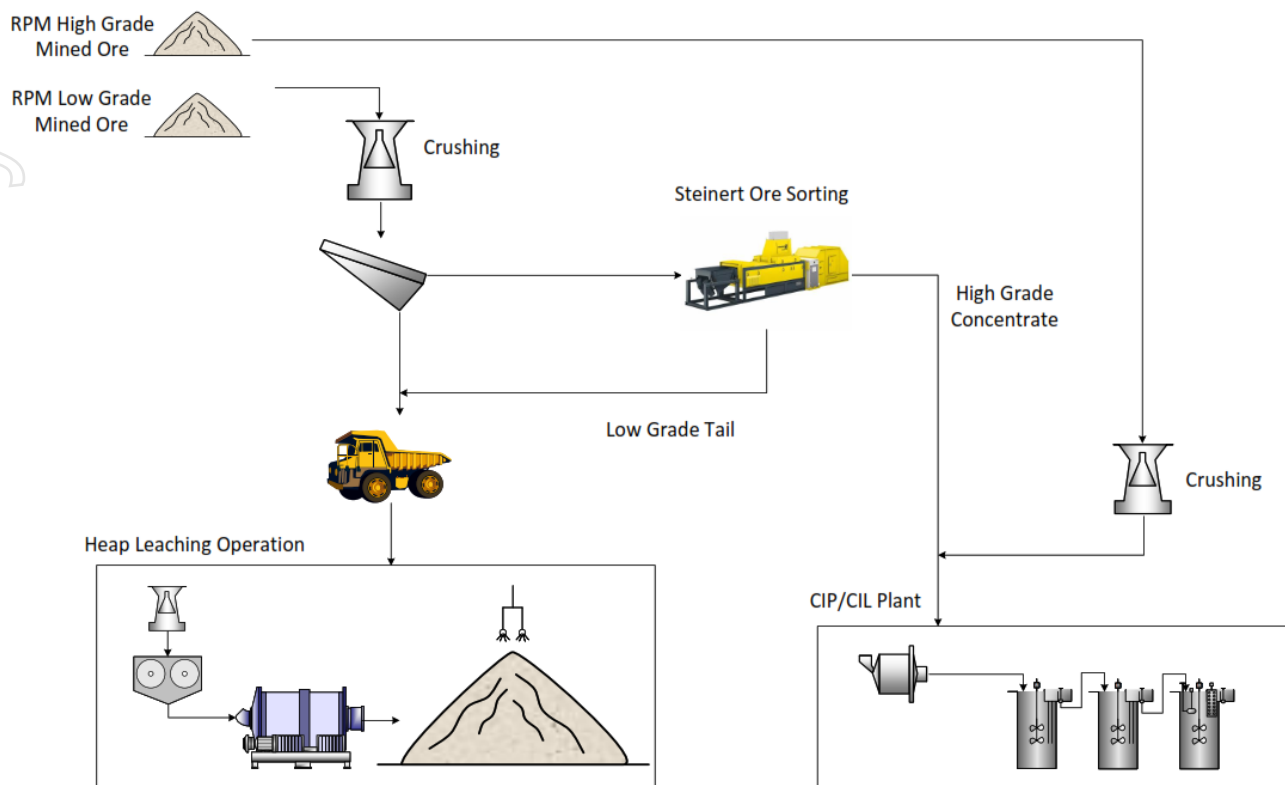

Figure 6. High level conceptual flowsheet for Estelle RPM ore
- RPM conceptual flowsheet outlines clear path to high gold recoveries (Figure 6).
This flowsheet demonstrates the capability to fully utilize the RPM resource combining Steinert Ore Sorting Technology, Heap Leaching and CIP/CIL. The high-level conceptual flowsheet is presented in Figure 6.